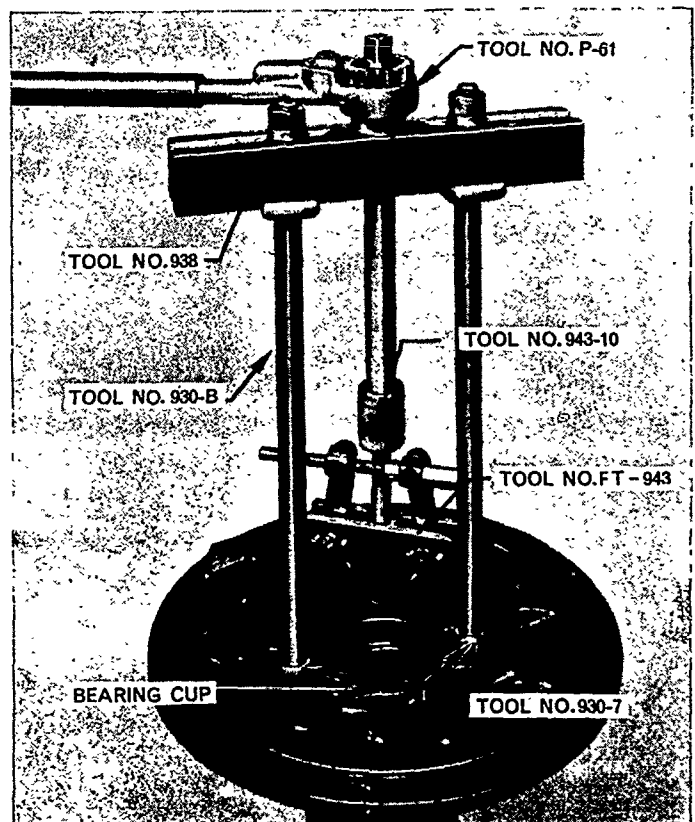

Figure 20
4. If it is necessary to install a new bearing cup in the left- or right-hand axle housing, use Tool Nos. P61, 930-B1, FT-943, 943-10, 938 to remove the cup, Figure 20. It will be necessary to remove the axle housing and to remove the axle shaft from the axle housing to use these tools. (This should be carried out as described in Section 3A, steps 1 and 2, 'Overhaul Rear Axle Shaft Assembly'.)